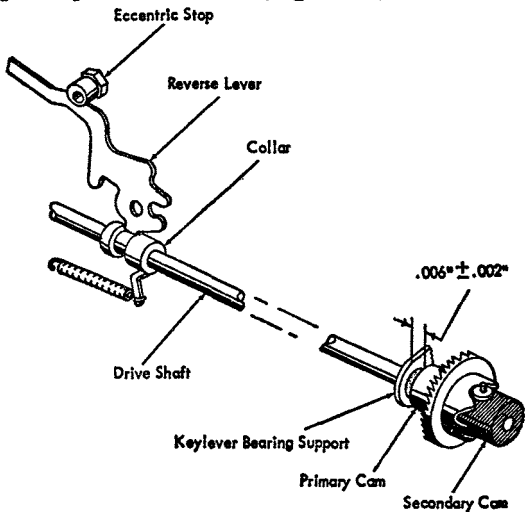

Figure 43. Reverse Lever Eccentric Stop
13. REVERSE - LEVER ECCENTRIC - STOP. With the reverse lever unlatched adjust the eccentric stop until the primary cam clears the keylever bearing support by $.006'' \pm .002''$ (Figure 43).